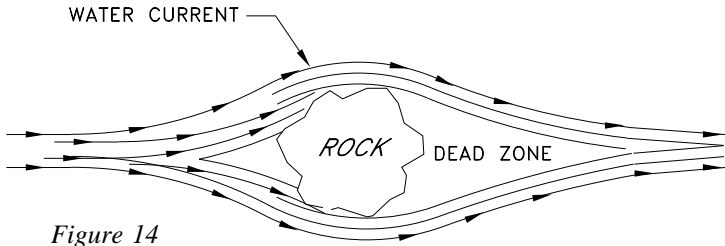

Figure 14
7.2.5 Zones of Silence: Large natural or man-made objects can block acoustical transmission under certain conditions, in much the same way that a rock blocks a fast-moving current of water. Close to the backside of the rock, in this example, the current is absent and the water seems still. A short distance away, the current is flowing again (Figure 14).